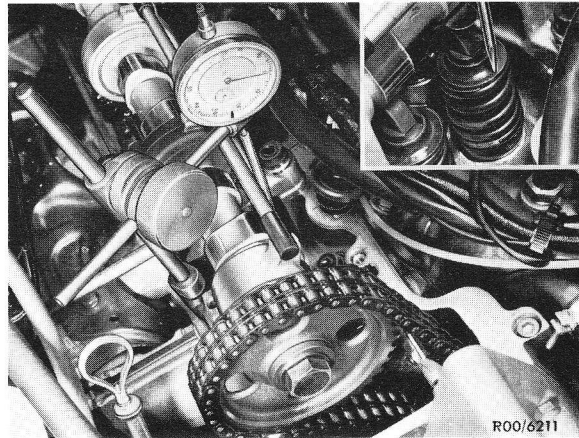

Fig. 3
- 8 Screw dial gauge holder with reduction piece to cylinder head (Fig. 3).